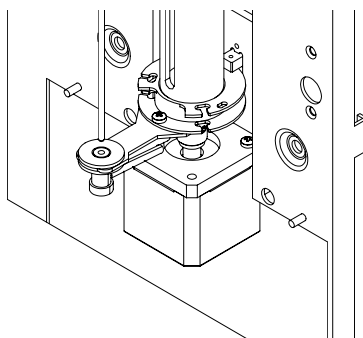

Figure 5-34
7. Pull up the sample probe until it leaves the sample probe wipe block (see figure 5-34).